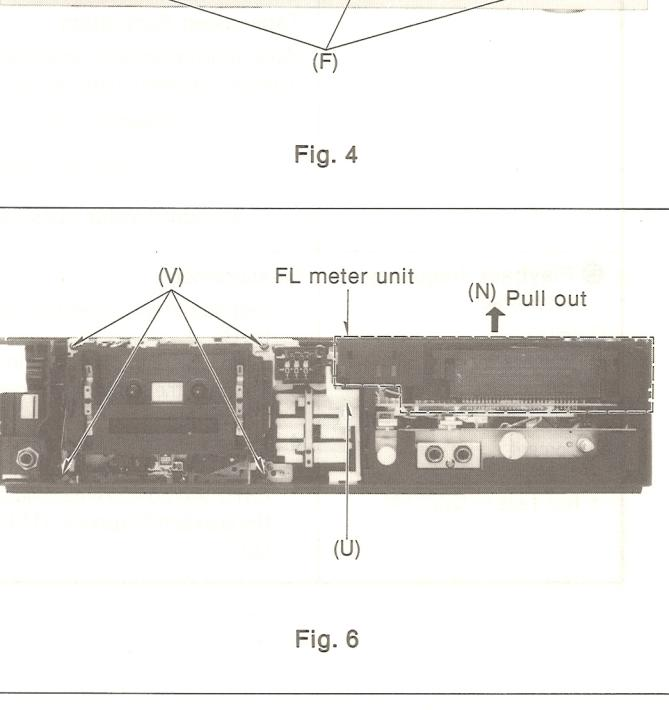

Fig. 6
<p>Equipment:  * VTM      * Oscilloscope  * Test tape (azimuth)  ... QZZCFM</p> <ol style="list-style-type: none"> <li>2 Playback the 8kHz signal from the test tape (QZZCFM). Adjust screw (B) in fig. 4 for maximum output L-CH and R-CH levels. When the output levels of L-CH and R-CH are not at maximum at the same time, readjust as follows.</li> <li>3 Turn the screw shown in fig. 4 to find angles A and C (points where peak output levels for left and right channels are obtained). Then, locate the angle B between angles A and C, i.e., a point where L-CH and R-CH output levels come together at maximum. (Refer to figs. 4 and 5.)</li> </ol> <p>L-CH/R-CH phase adjustment</p> <ol style="list-style-type: none"> <li>4 Make connections as shown in fig. 6.</li> <li>5 Playback the 8kHz signal from the test tape (QZZCFM). Adjust screw (B) shown in fig. 3 so that pointers of the two VTMs swing to maximum and a waveform as illustrated in fig. 6 is obtained on the oscilloscope.</li> </ol> <p>Fig. 4</p> <p>Fig. 5</p> <p>Fig. 6</p>